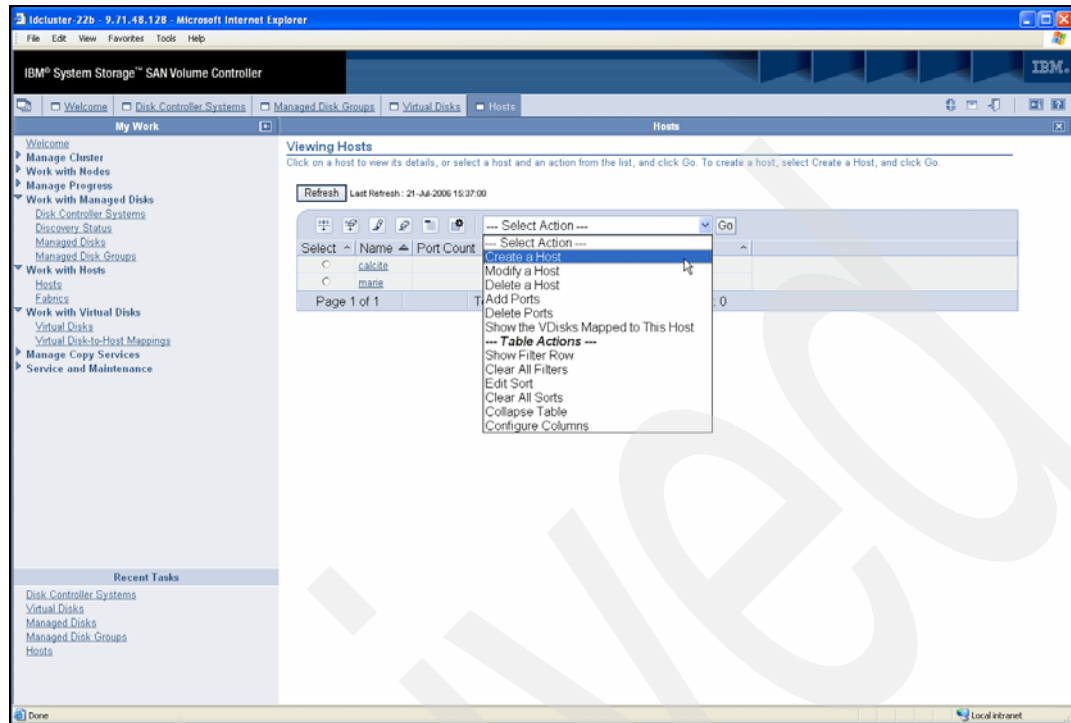

Figure 6-25 Host View
3. Bypass the filter. The panel shown in Figure 6-25 is displayed.